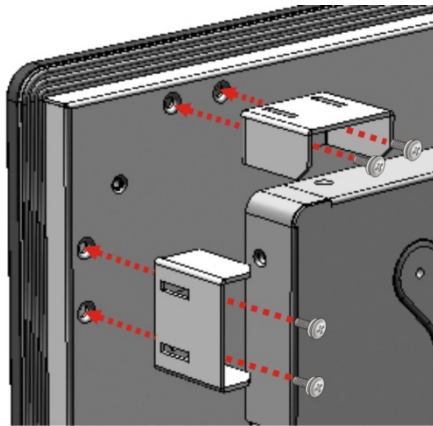

Figure 3-32: Secure the Mounting Clamp Holders
Step 1: Secure the mounting clamps holders to the corresponding holes on the rear of the monitor (**Figure 3-32**).